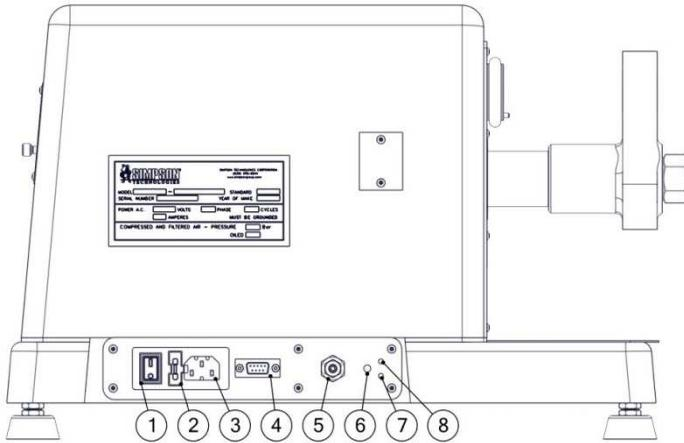

Figure 7.1: Back View
2. Position an empty cup with a capacity of approximately 200/300 ml below the strength machine vent port (Figure 7.1, Item 6). The cup will capture the expelled used oil from the strength machine.
5. During this cycle, the strength machine will pump out used oil from the vent port (Figure 7.1, Item 6) into the catch container. Repeat Step 4 and allow time between cycles for the oil to drain out of the strength machine. Continue repeating Step 4 until the used oil is completely drained from the strength machine.
6. After draining, place the strength machine in its normal upright position. Connect a small hose into the unplugged vent port (Figure 7.1, Item 6).
1. Turn the power switch to the on position (Figure 7.1, Item 1).
1. Turn the power switch to the on position (Figure 7.1, Item1).